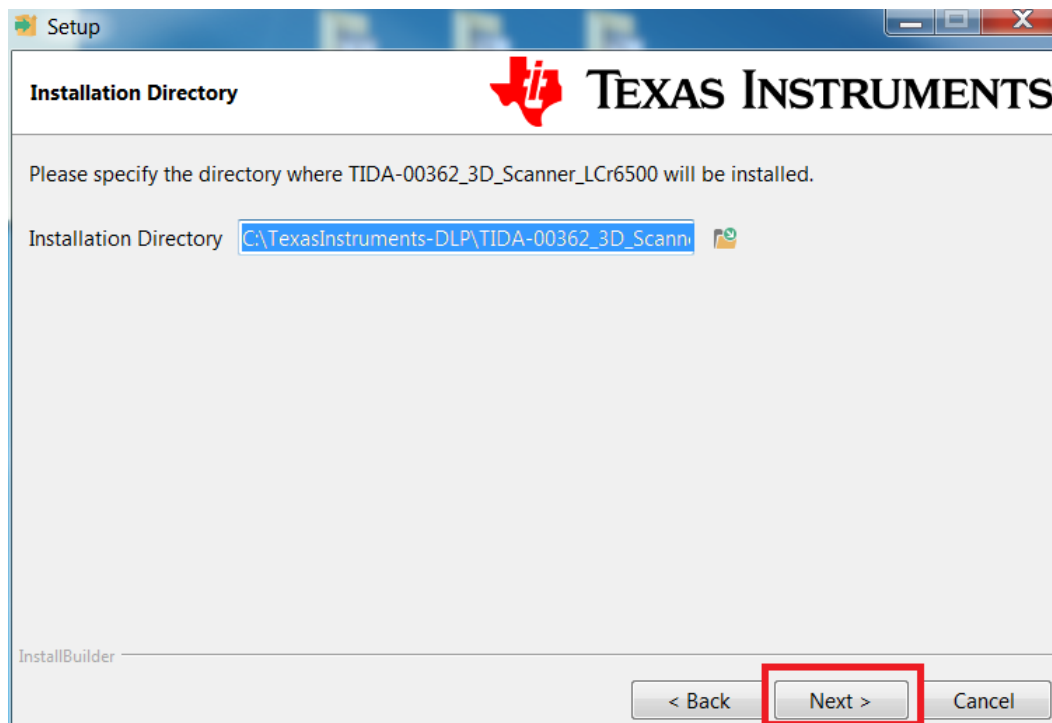

Figure 2-22. 3D Scanner Reference Design Installation Path Selection
5. Select an installation path where the reference design software will be located. Click the "Next" button, as shown in Figure 2-22 to continue installing the software.